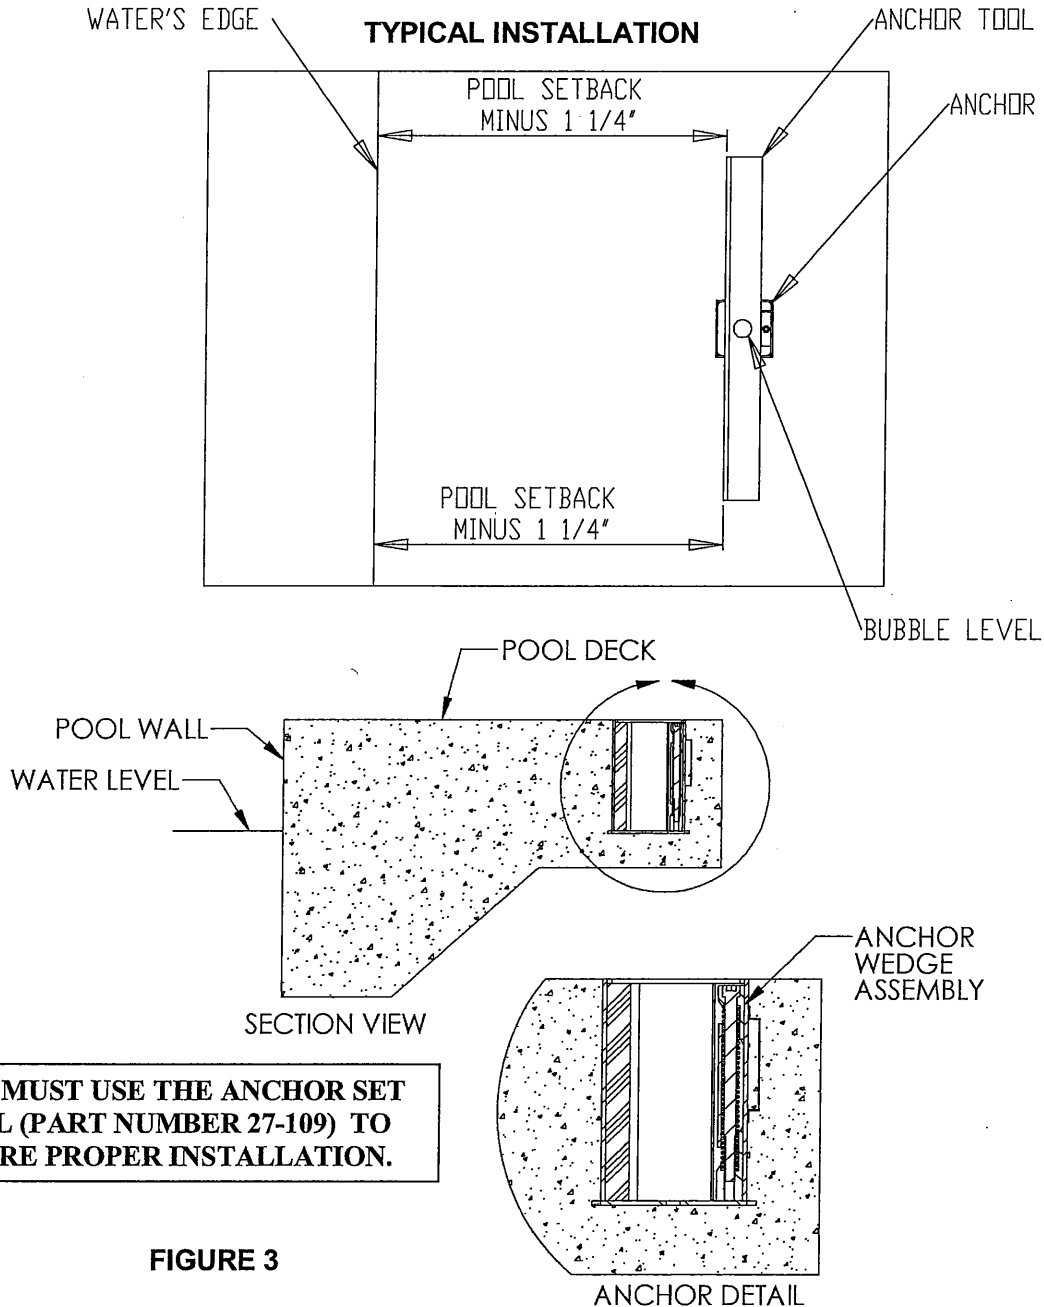

FIGURE 3
1. The RockSolid anchor should be installed in the orientation shown in **FIGURE 3**. The side of the anchor that contains the wedge should be oriented such that it is parallel to, and farthest away from, the pool wall. The hole in the bottom of the anchor can be covered during installation to prevent concrete/epoxy from entering the anchor, but needs to clear during use to allow for the anchor to drain.